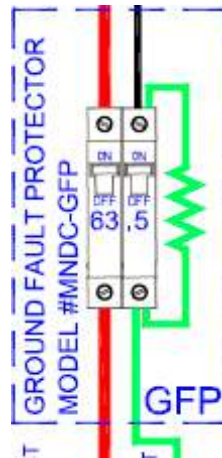

Figure 19-Ground Fault Protection Assembly
- If PV Ground Fault Protection is required a PV Ground Fault Protection (GFP) Assembly can be installed. See Figure 19